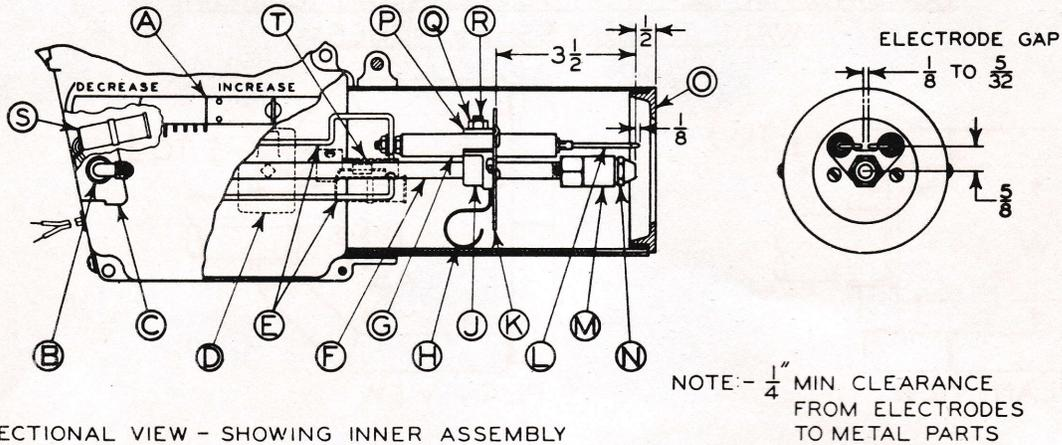

Figure 2
**Installing Nozzle**—Make sure that the proper size nozzle for the installation has been selected and assembled tightly to the nozzle adaptor. The inner assembly should be removed from the burner before screwing the nozzle in place, see Figure 2. Do not attempt to insert the nozzle through the front end of air tube, as it is almost impossible to get a tight joint between the nozzle and nozzle adaptor unless two wrenches are used. Although electrodes are adjusted at time of manufacture, they should be checked at time of installation to be sure that they are set in accordance with Figure 2 in this manual. The flame detector, when supplied, should also be checked for proper location, see Figure 2.
**Electrode Setting**—Alloyed metal electrodes that will not burn out or oxidize at high temperatures are furnished. The electrodes for this burner are set as shown in Figure 2. The electrodes shall be 5/8" above the center of nozzle, 1/8" in front, and 1/8" to 5/32" gap. These settings should be checked when installing the burner and at that time make sure that no part of the exposed electrode tips come closer than 1/4" to the nozzle or any other metal part. Also, check that the oil spray does not strike the electrode tips.
**Air Adjustment**—The amount of air supplied for combustion on all Model DH Burners is regulated by the air damper slide on the outlet side of the blower. The adjustment is located on the right side of the housing. (See Figure 2.) To adjust the air supply loosen thumb screw and slide to increase or decrease air as shown by marking A. When the correct amount of air is obtained, tighten thumb screw which locks the EXACT-AIRE damper in place.
The distance from the tip of the nozzle to the front of the turbulator should be 1/2" as shown in Figure 2. This setting will produce the most desirable flame.